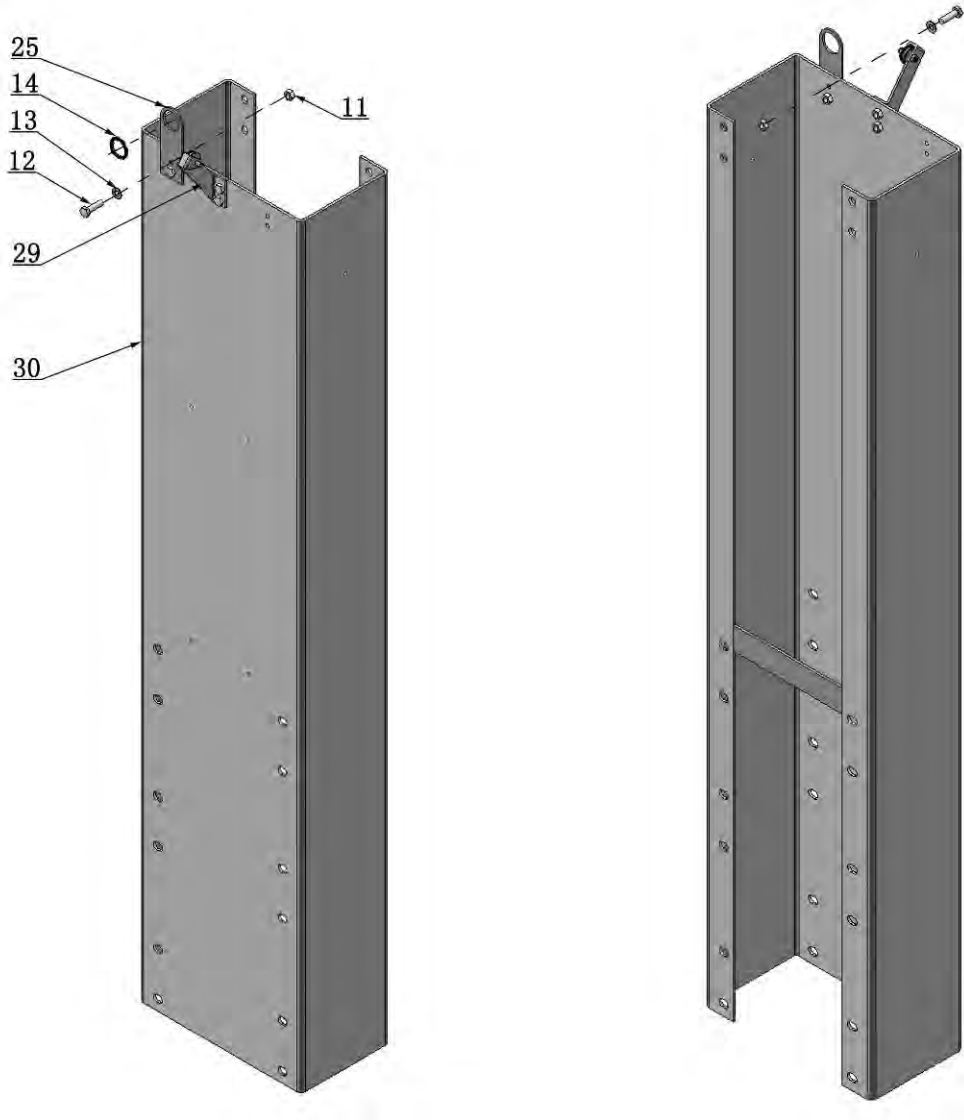

Fig. 15
D. Install parts on the extension columns (See Fig. 15).